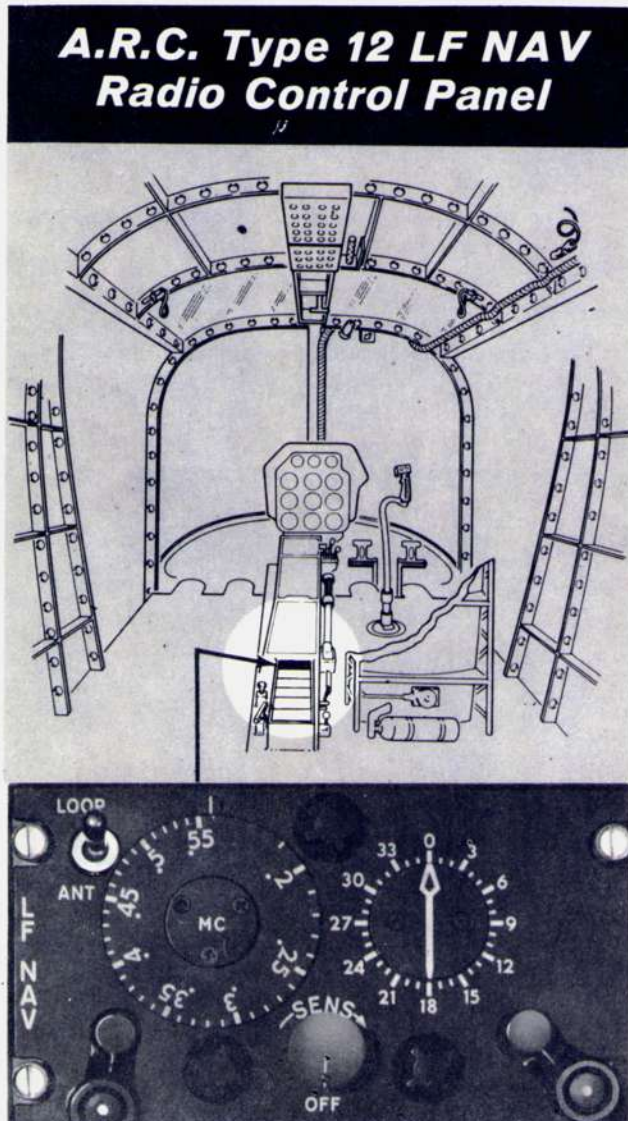

Figure 4-10
**Description.** The A.R.C. Type 12 LF NAV equipment provides continuously tunable facilities over the frequency range of 190 to 550 kilocycles, and is used for reception of low frequency radio range stations, homing or direction finding. A loop antenna (2, figure 4-5) is used for direction finding; a wire antenna (4, figure 4-5) is used for range reception. The equipment is turned on and volume is adjusted using the OFF-SENS knob on the control panel (figure 4-10). Receiving frequencies are tuned using the tuning cranks, and are shown on the MC dial. The bearing of the tuned station with respect to the helicopter heading is displayed in degrees on the bearing dial. Electrical power to operate the equipment is supplied from the 28-volt d-c bus through the radio circuit breaker on the circuit breaker panel (figure 1-22).